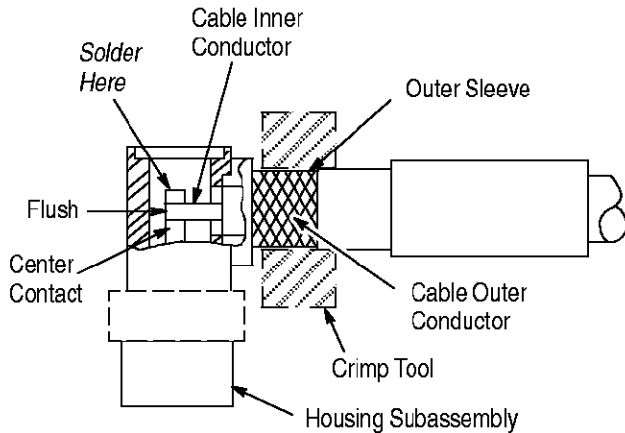

Figure 4
3.2. Soldering of Cable Inner Conductor to Center Contact (Figure 4)
- b. Hold cable dielectric and inner conductor flush as shown in Figure 4.
3.3. Crimping of Cable Subassembly to Housing Subassembly (Figure 4)